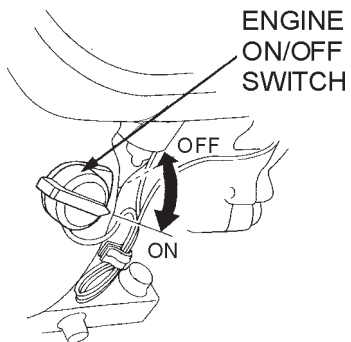

Figure 12. Engine ON/Off Switch
2. Place the **Engine ON/OFF switch** (Figure 12) in the "ON" position.
2. Place the **Engine ON/OFF switch** (Figure 12) in the "**OFF**" position.